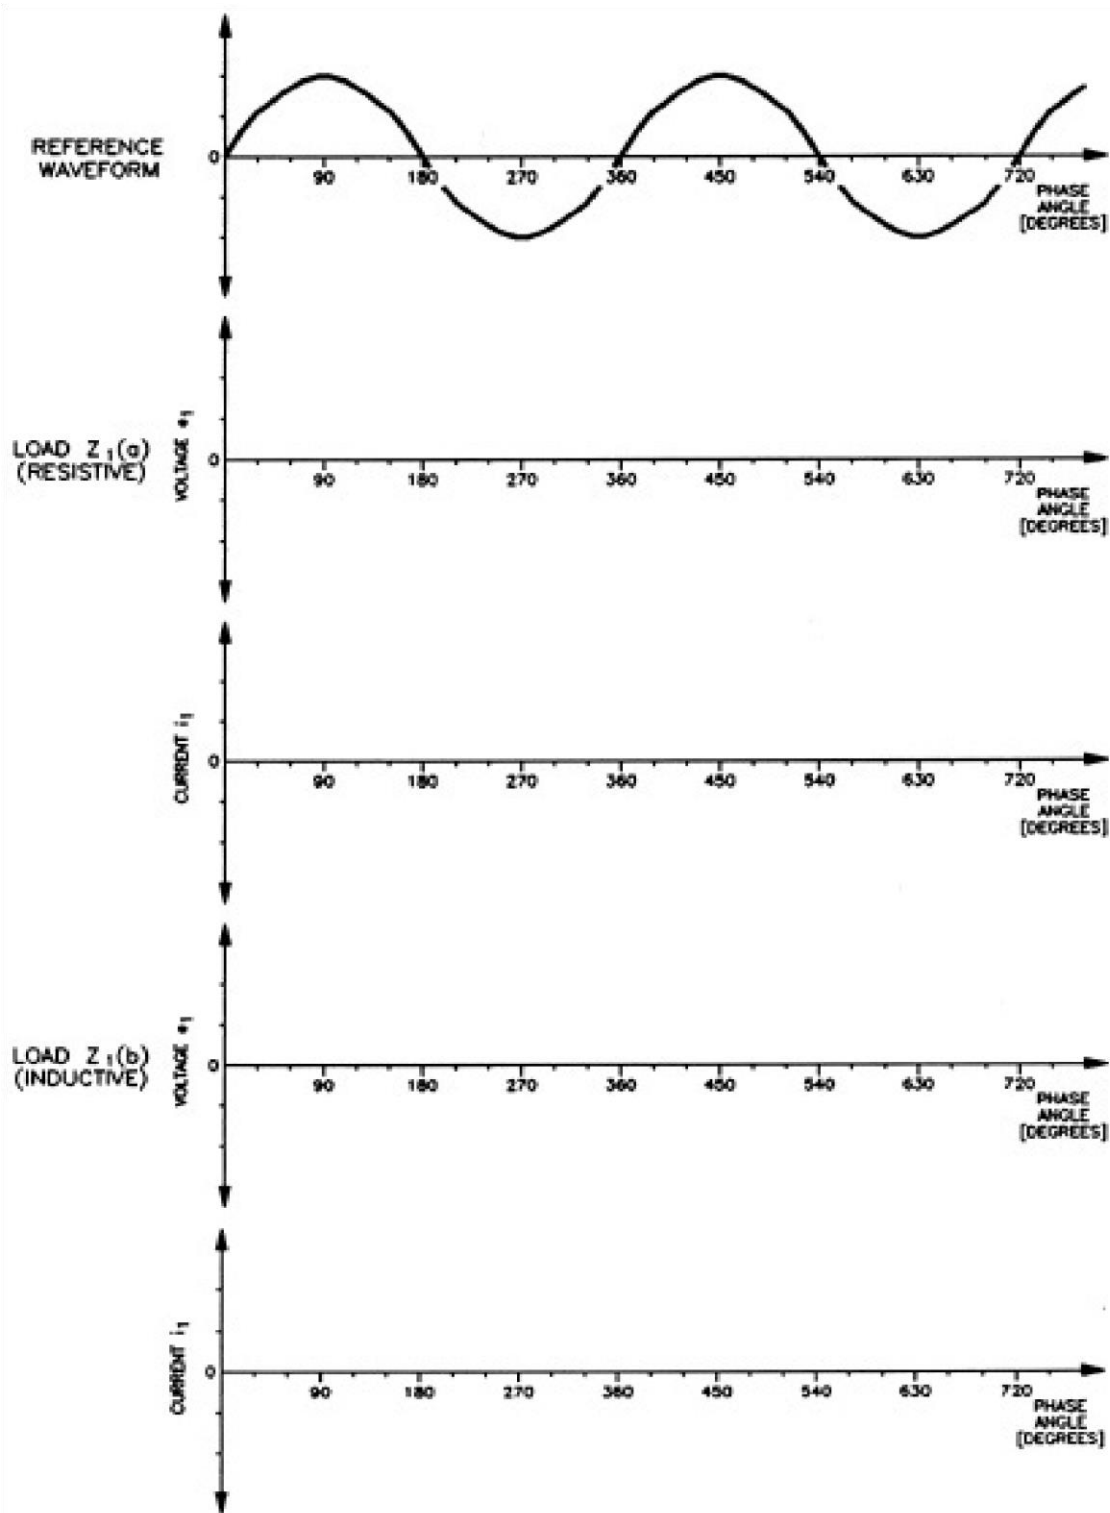

Figure 14: Voltage and current waveforms for a full-wave bridge rectifier.
Z_1 (a) = $220\ \Omega$ and inductive load is Z_1 (b) ,  , is $R = 220\ \Omega$ and $L = 0.8\text{ H}$. Sketch the voltage and current waveforms in Figure 14. Record the ripple frequency.
5.4.2. With the power off, change the load in the circuit to the inductive load, Z_L (b). Repeat the procedure steps necessary to complete Table 3 and Figure 14.